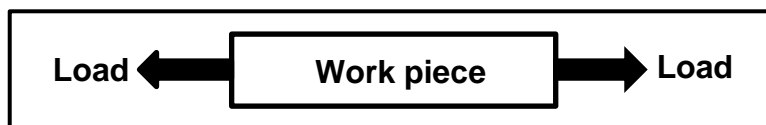

FIGURE 4.12
- (1)
4.12 Identify the type of load applied to the work piece in FIGURE 4.12 below.